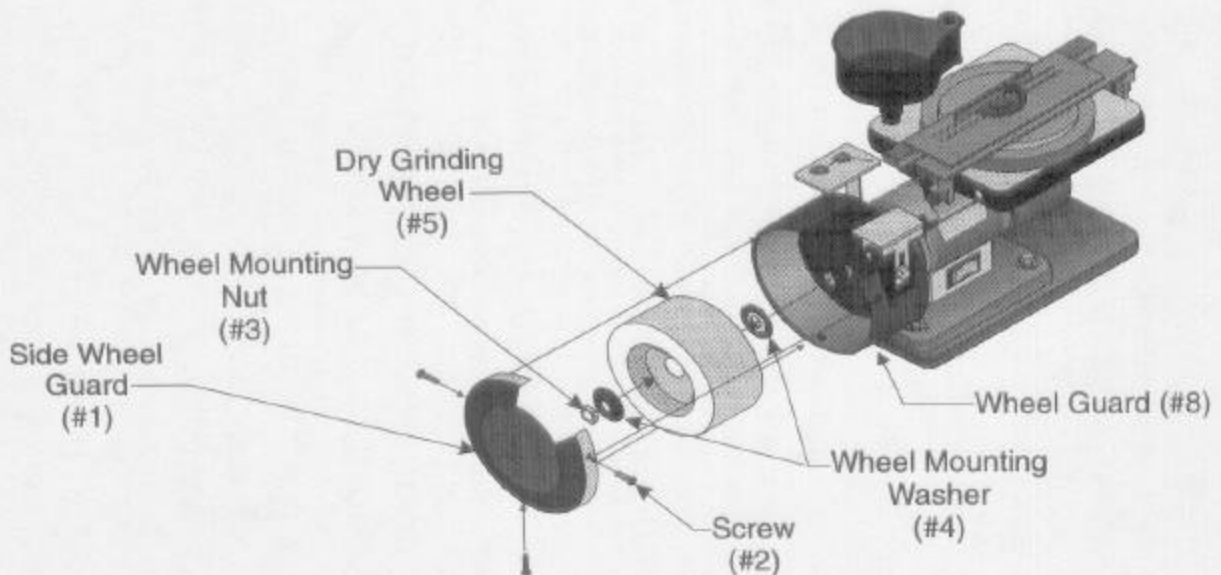

Figure 4 – Removing Dry Grinding Wheel
Step 1: Remove the SIDE WHEEL GUARD (#1) by unscrewing its SCREWS (#2) as shown in Figure 4.